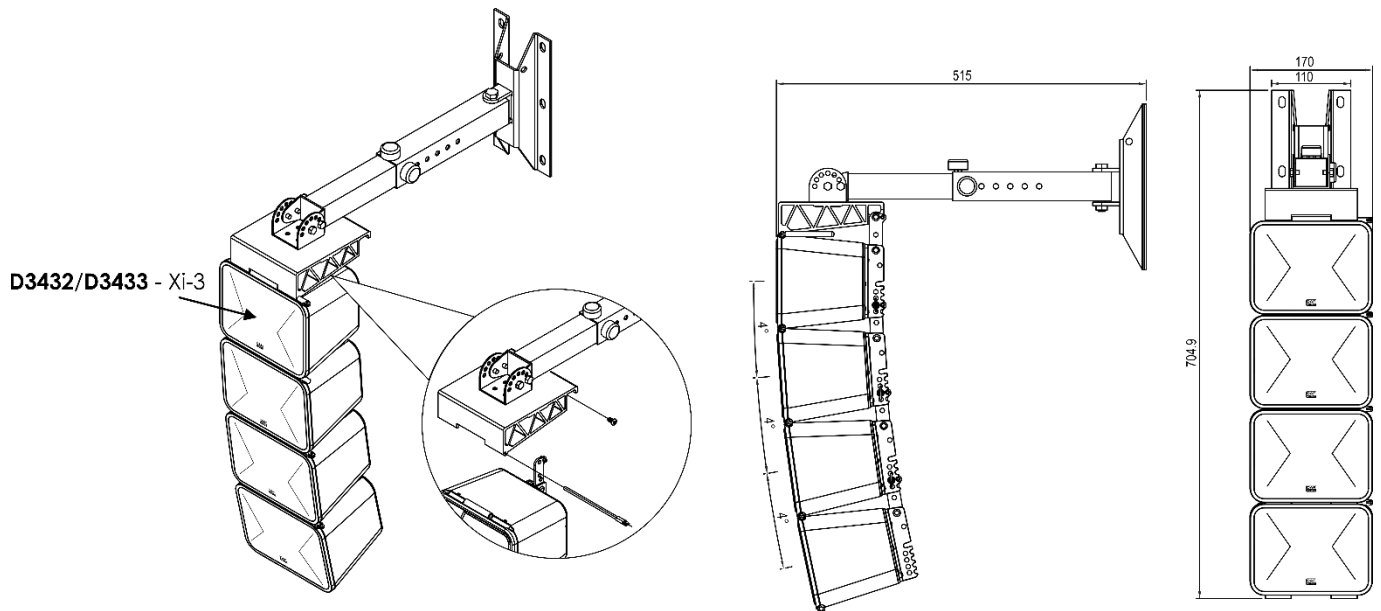
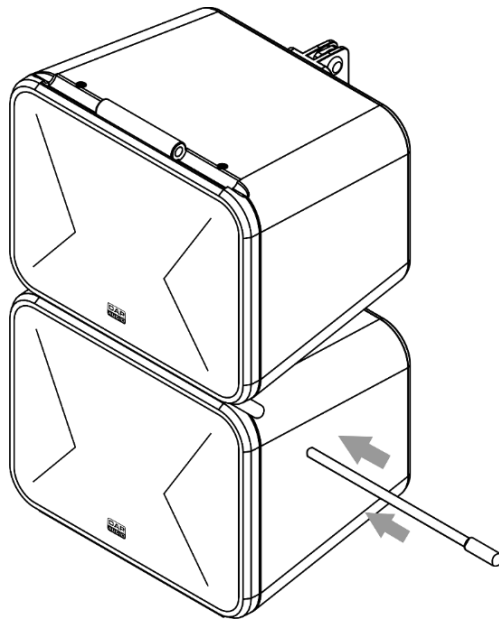

Fig. 02
Fig. 03
01) Mount the Wall Bracket (D3434/D3435) on a wall (fig. 02).
- 02) Mount the Xi-3 speakers on the Wall Bracket, from the top downwards, and insert the rigging pins to connect them to each other (fig. 02 and fig. 03).